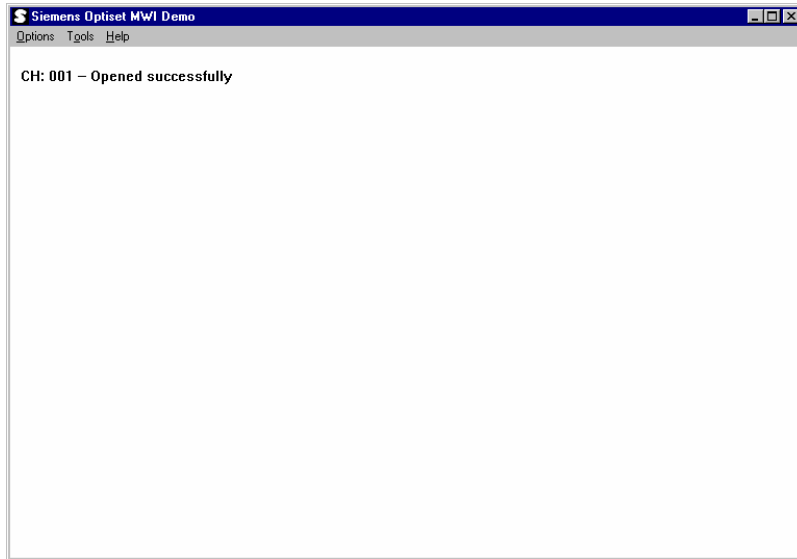

Figure 28. Channel Opened Message
6. If the channel opens, the Siemens Optiset MWI Demo window displays a success message as shown in *Figure 28*.